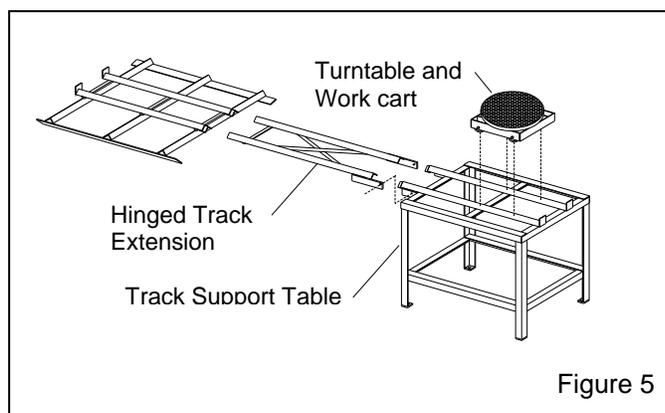

Figure 5
3.3.1 Components of the turntable and track assembly are shown in Figure 5. The assembly consists of: